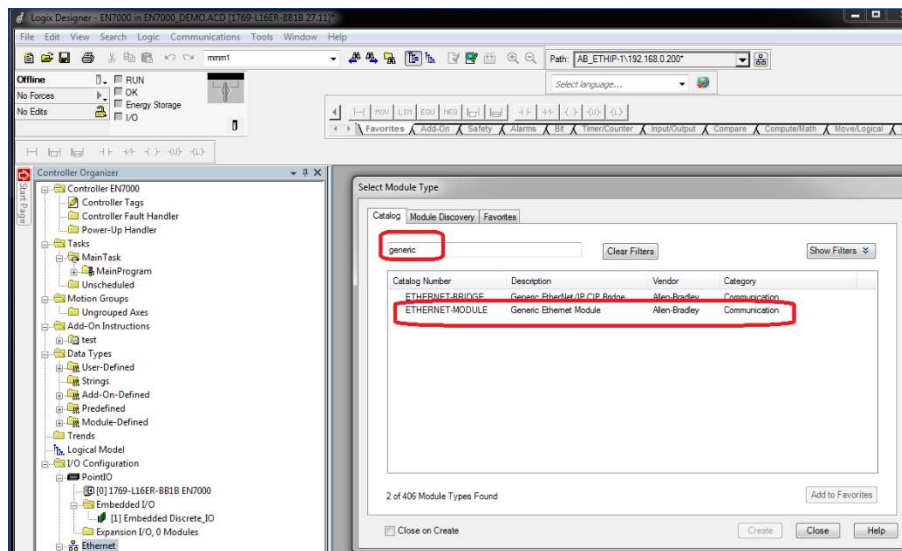

Figure 6 Create Generic Ethernet Module
- c. Select **Generic Ethernet Module** and click on **Create**, as shown in Figure 6.